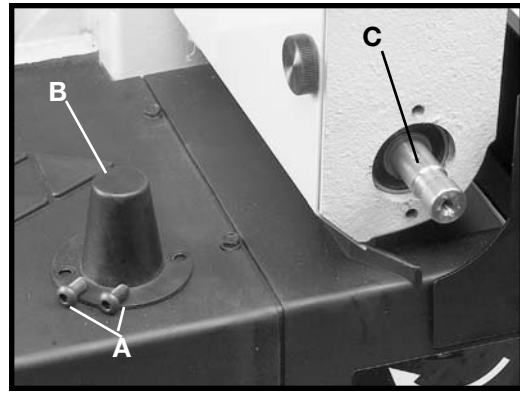

Fig. 41
4. **WARNING:** Unguarded rotating shafts (C) Fig 41 can create an entanglement hazard. **ALWAYS COVER THE POWER TAKE-OFF SHAFT** when not using accessories.